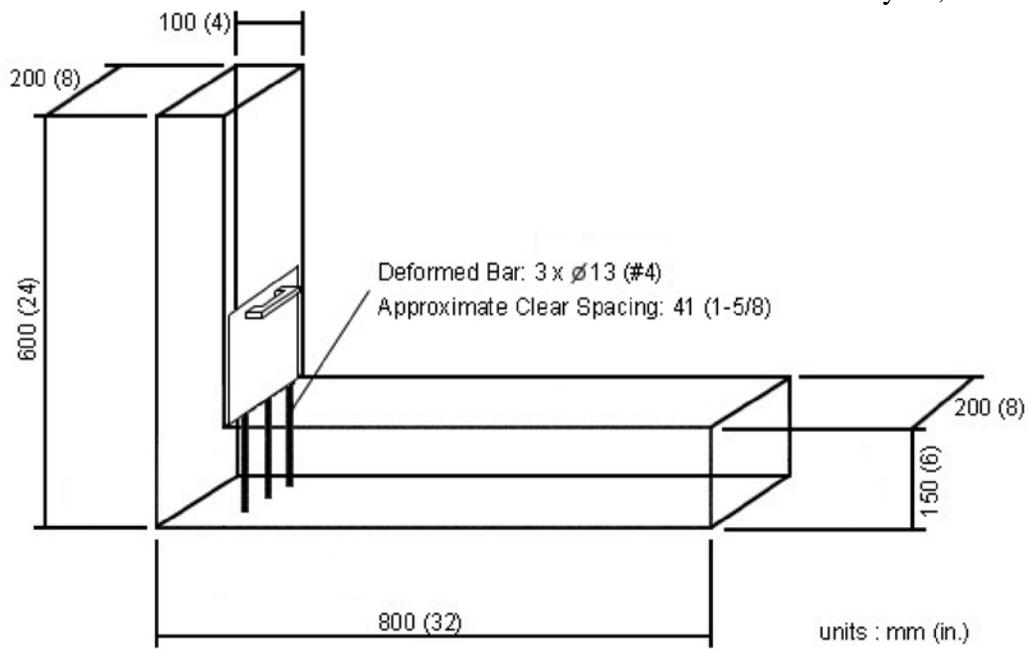

Figure 1. L-Box Apparatus
1. L-Box, inside walls shall be a smooth, rigid, nonabsorbent material (See Figure 1).